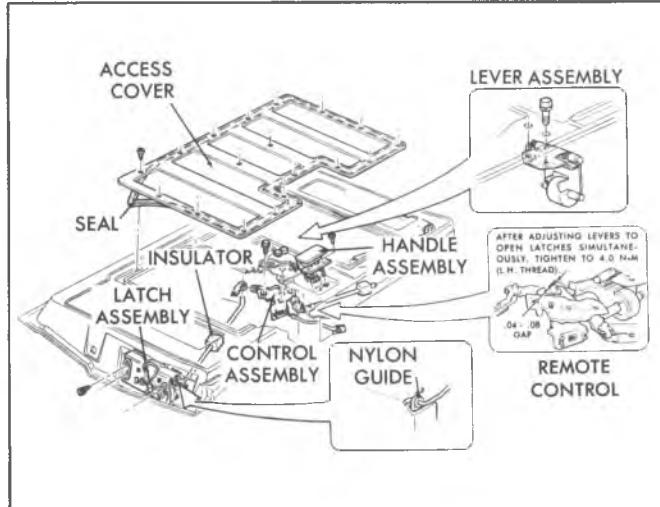

Fig. 2D-59—Latch and Remote Controls—(06 Only)
- Remove R.H. torque rod bracket screws, figure 2D-58, then remove torque rod from endgate.